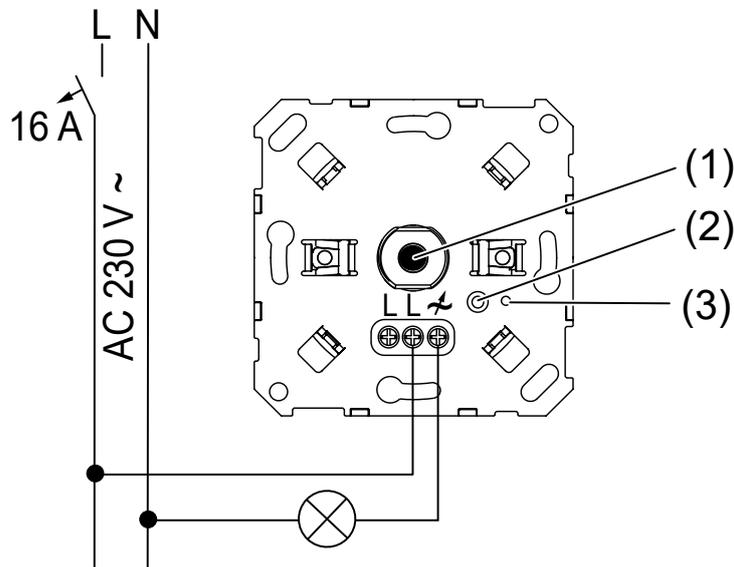

Figure 1: Connection diagram
- (1) Rotary axle
- (2) Prog. button
- (3) Status LED
- (4) Changeover switch
- Connect the dimmer as shown in the connection diagram (see figure 1).